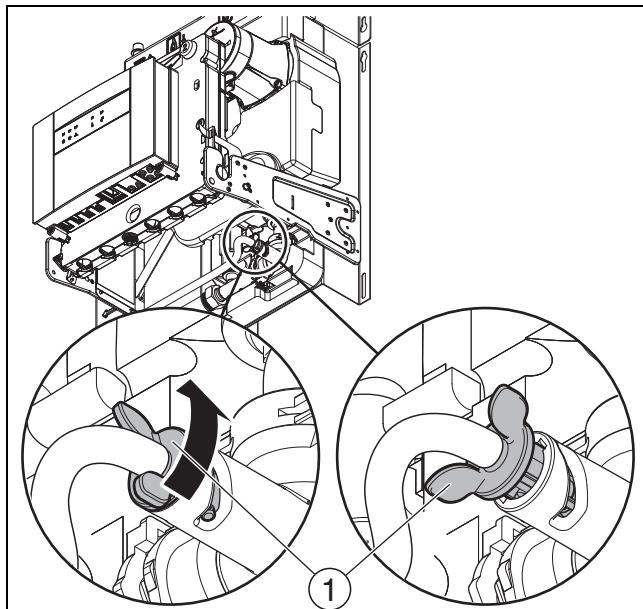

Fig. 53 Draining water from the hybrid manager
- Push the drain hose onto the drain valve (fig 53, Page 49).